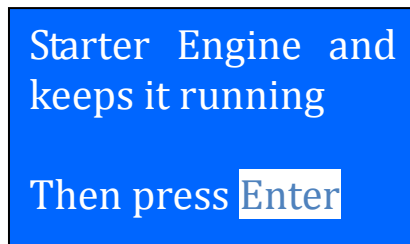

Figure 52
5. Press  key to continue and the display will show: (Fig.52)